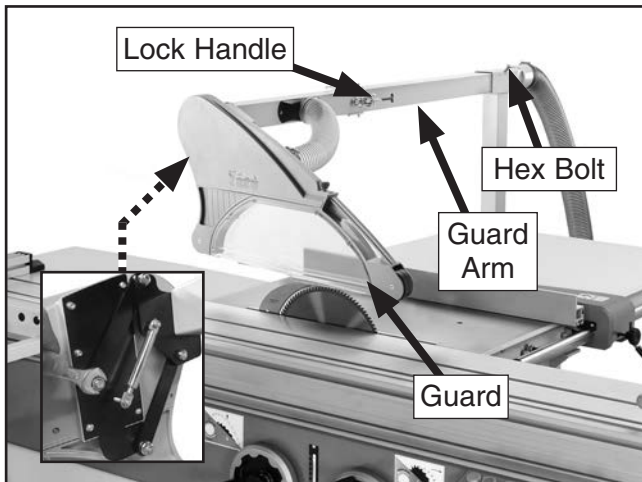

Figure 74. Blade guard assembly.
The term "blade guard" refers to the assembly shown in **Figure 74**.
Sometimes the guard or its components can get in the way when cutting very narrow workpieces or other specialized cuts. Use the lock handle shown in **Figure 74** to move the guard out of the way. The blade guard **MUST** remain installed on saw. If blade guard is removed for specific operations, always replace it immediately after those operations are complete.
Loosen the hex bolt securing the guard arm (see **Figure 74**), and adjust the guard so the distance between the blade and both side covers is equal.
For stock up to 1" thick, loosen the (4) lock nuts securing guard to guard arm, (see inset image in **Figure 74**), ¼-turn each so the blade guard moves smoothly up and down with the workpiece. For stock thicker than 1", set the guard to rest on the workpiece, then tighten the (4) lock nuts.